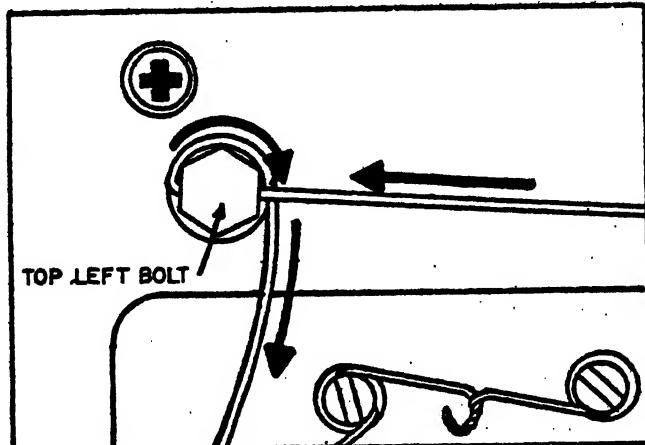

FIGURE 21
- b. Bend the left wire around the top of the bolt CLOCKWISE and down BEHIND the wire on the right side. See figure 21.